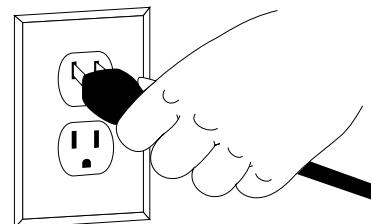

Figure 20
5. See Figure 20. Make sure the ON/OFF switch is OFF (0), then plug the electrical cord into a three-prong outlet.